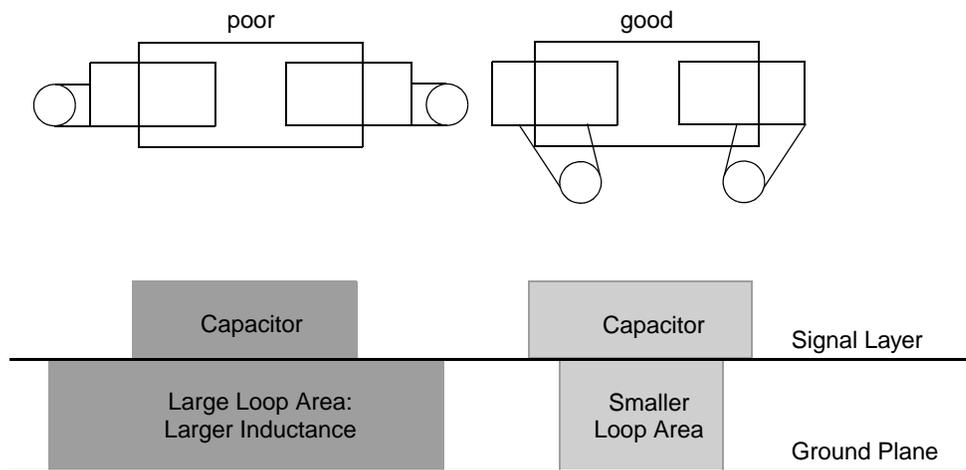

Figure 3-2. Decoupling Capacitors Pad Escaping
- Routing Bypass Capacitors (see Figure 3-2):
power plane (using  $\sim 22 \mu\text{F}$ ). For high speed noise rejection and an improved low impedance AC path to ground at higher frequencies, place several smaller value capacitors in parallel between the power rail being decoupled and its associated ground. Place each high-speed bypass capacitor (using  $\sim 0.10 \mu\text{F}$ ) as close to a power pin as possible in order to supply the instantaneous switching currents required by the PC133 memory subsystem (GX1 and SODIMM or DIMM). Use the preferred capacitor placement/routing strategy detailed in Figure 3-2 for placement and routing of the bypass capacitors.